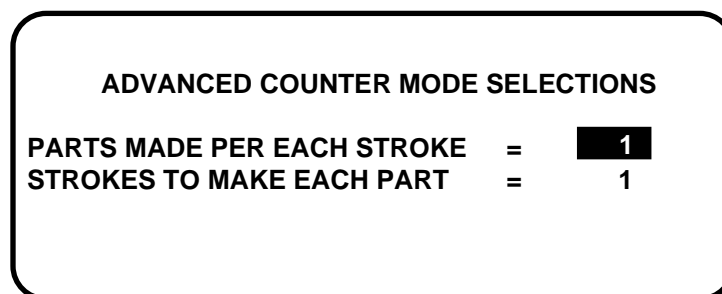

Figure 5-13. Advanced counter mode
2. Highlight the item you want to set. Press ENTER. A box appears on the screen, as shown in Figure 5-13 on the previous page.
After you make the last setting for the sensor, you will again see this display (Fig. 5-13, Pg. 89). The name of your sensor will appear in the display. The next sensor is automatically highlighted.